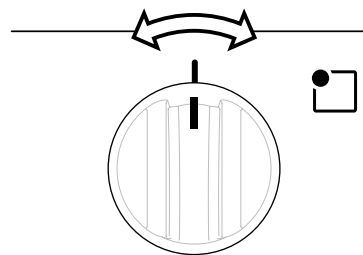
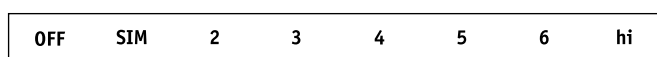

Fig. 1
Fig. 2
2. Push in and turn the surface control knob (See Fig. 1), in either direction to the desired setting. Start most surface cooking on a higher setting and then turn to a lower setting to finish. The surface control knobs do not have to be set exactly on a particular spot. Use the graphics provided as a guide and adjust the control knob as needed (See Fig. 2). Each surface element provides a constant amount of heat at each setting. For more information see the **Suggested surface element settings table** (See Fig. 3).